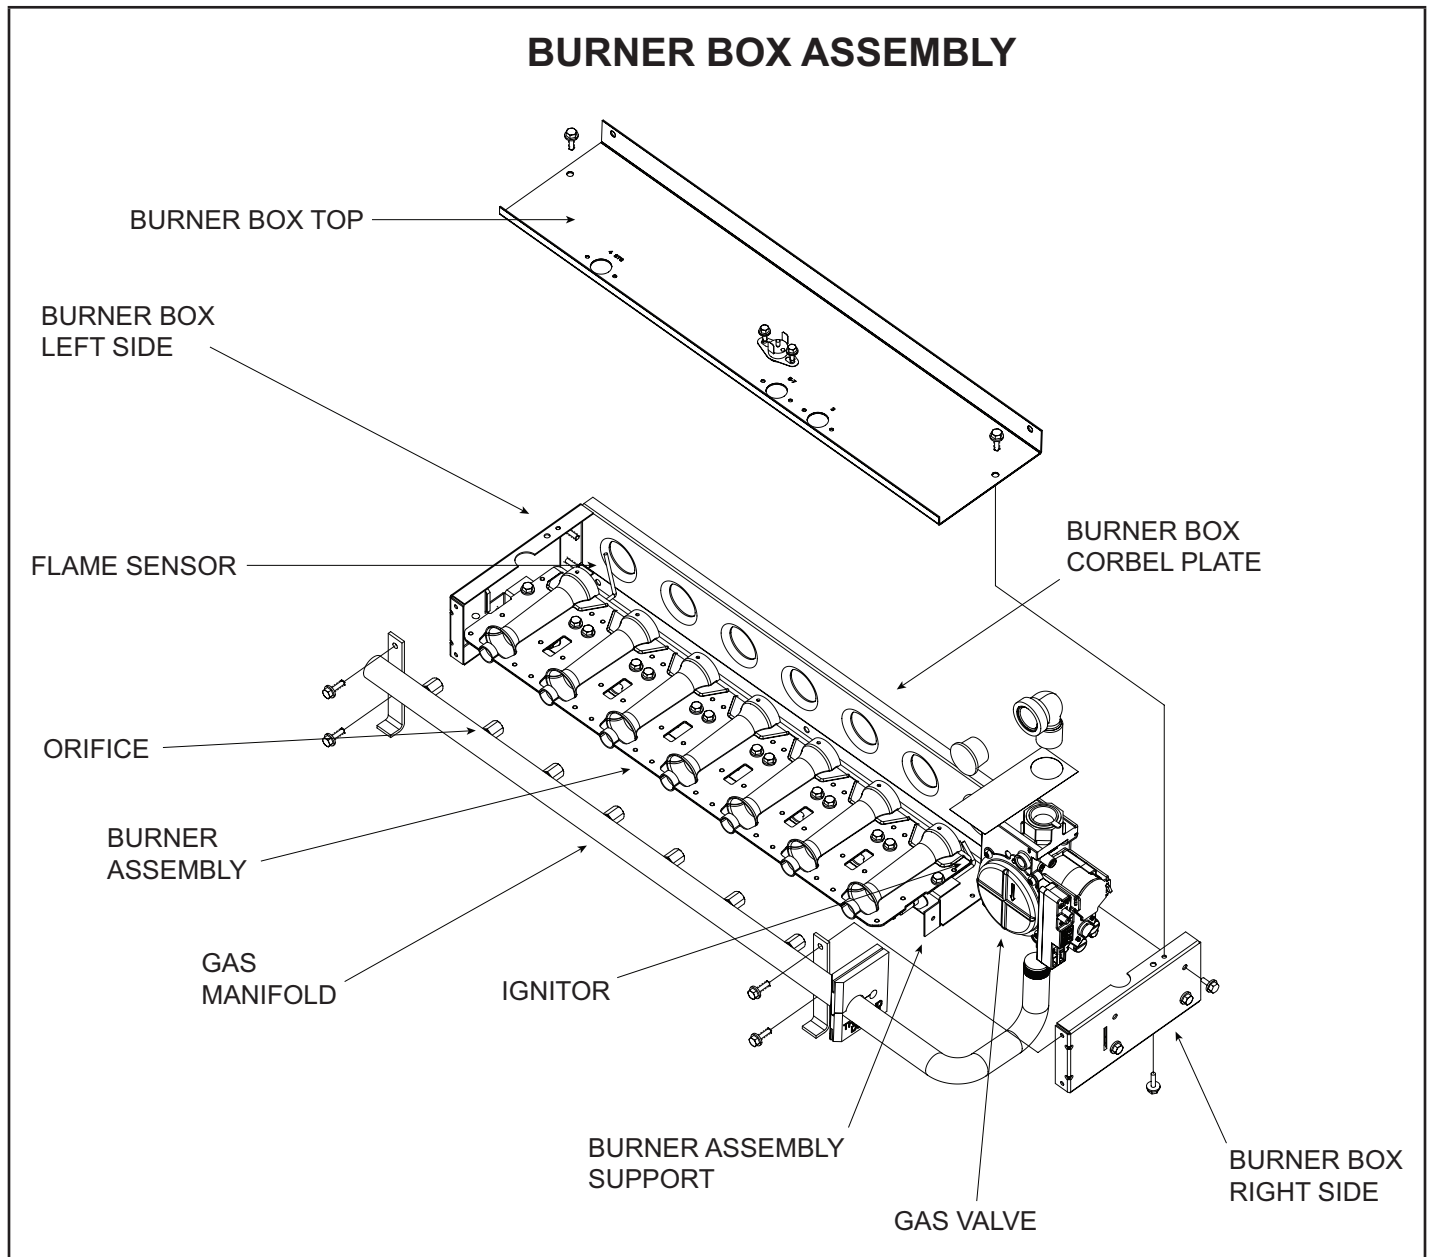
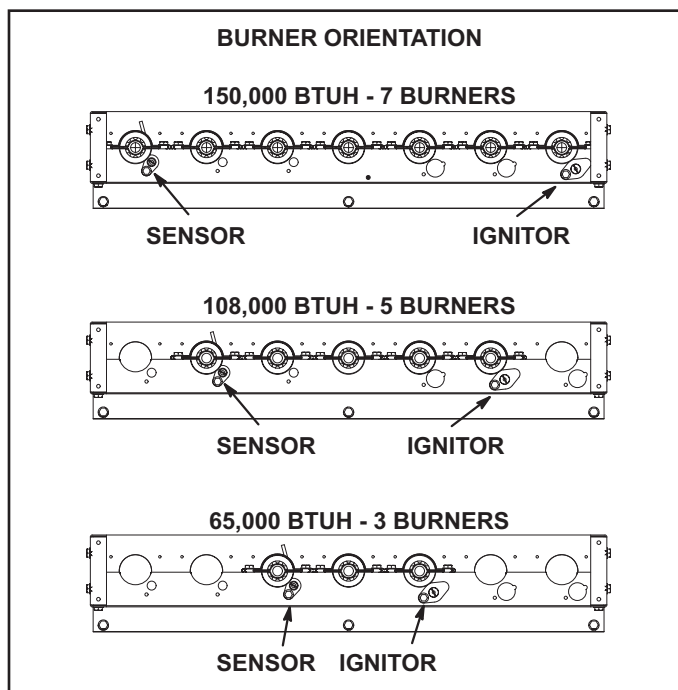
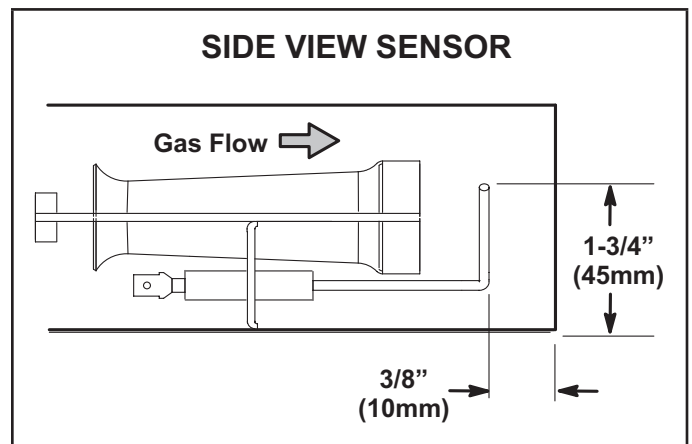

Figure 20
Figure 21
Figure 28
4. Burner Box Assembly (Figure 20)
The 3, 5, or 7 burners are made into a single assembly and can only be removed as a single assembly from the burner box. Burner maintenance and service is detailed in the SERVICE CHECKS section of this manual. See Figure 20 for burner removal. See Figure 21 for number of burners.
For each burner assembly, the unit has a corresponding manifold assembly. The manifold assembly is a formed, painted, 1/2" diameter, black iron pipe with 3, 5, or 7 brass orifices installed. The manifold assembly secures to the burner box (See Figure 20) using sheet metal screws. A manifold is correctly installed when the each orifice falls inside the small inlet ring at each burner's inlet.
The flame sensor electrode is mounted through a hole in the burner support, electrode tip protrudes into the flame envelope of the appropriate burner, and the electrode assembly is secured with a screw to burner support. The electrode assembly can be removed for service without removing any part of the burners. Figure 21 shows the burner support mounting location by heater size. A side view of the FS electrode can be seen in Figure 28. The FS electrode is designed so the tips are at least 1/2" (12.7 mm) inside the flame envelope. FS electrode is not field adjustable. Do not bend or alter the electrode as this may create a hazardous condition that can cause property damage or personal injury.